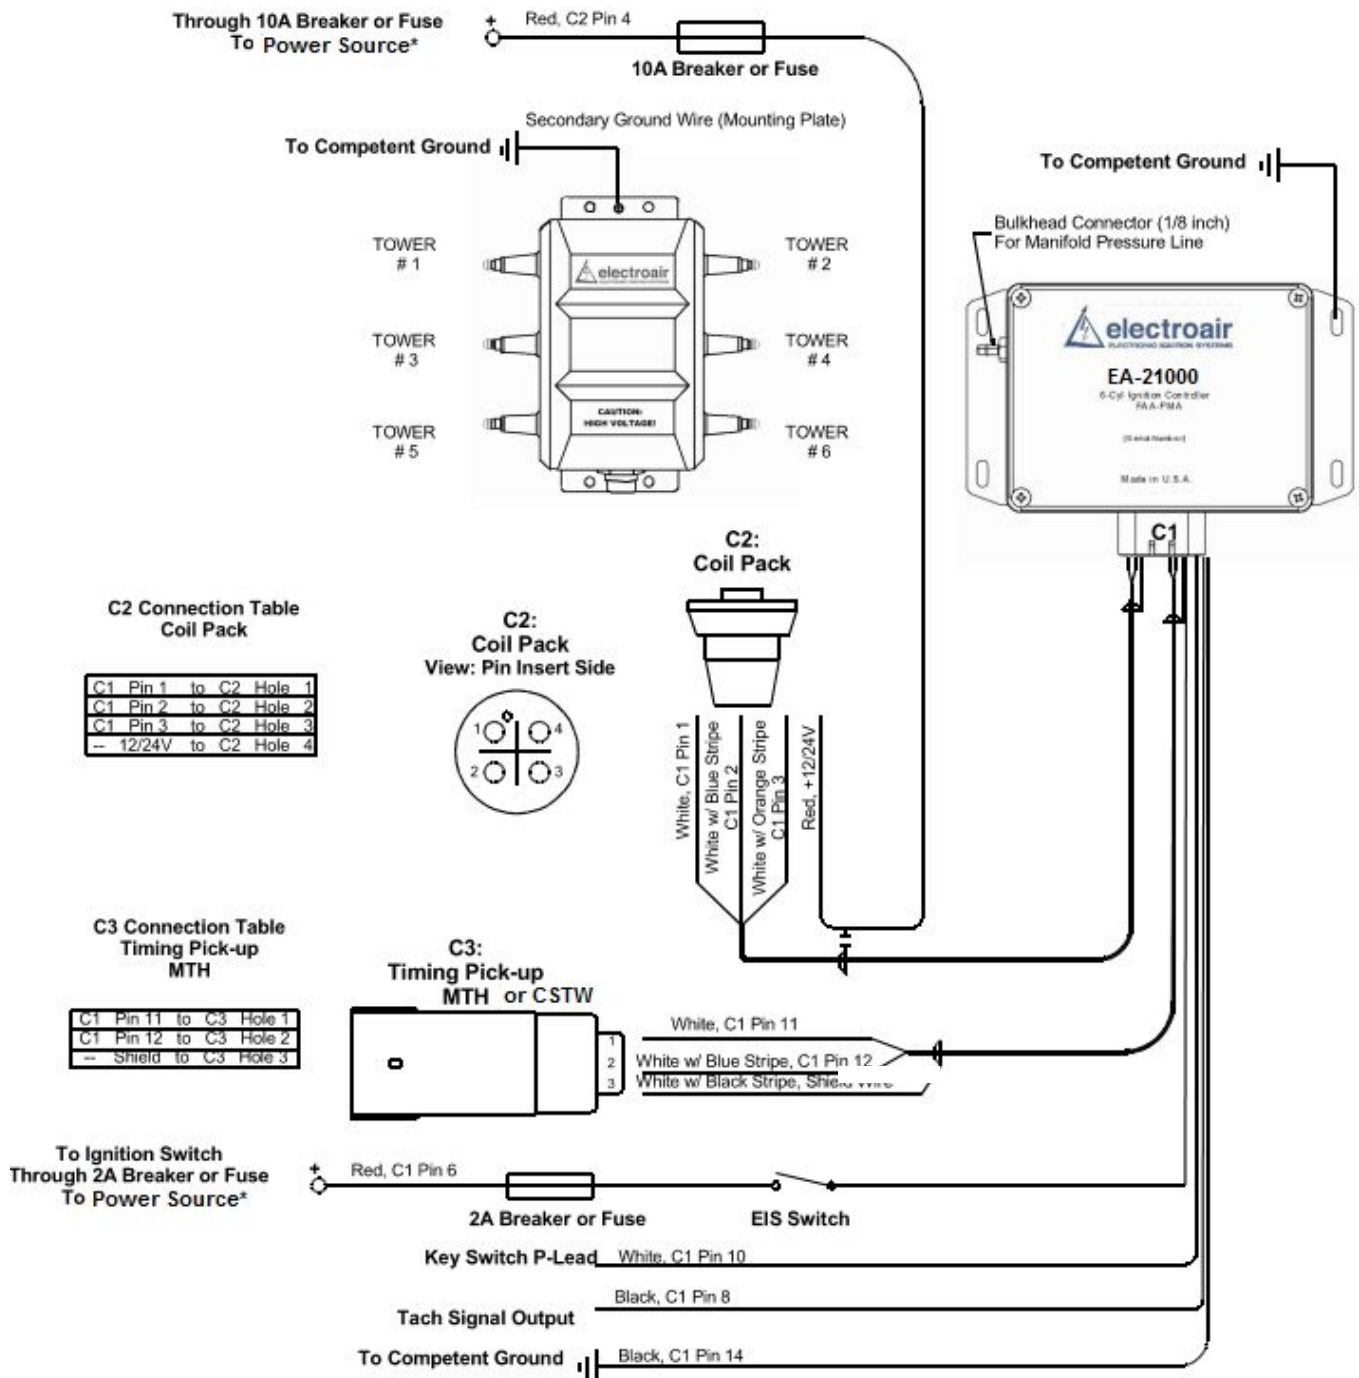

Figure 22: Wiring diagram for a EIS-61000 Series Kit
- n. Figure 22 shows the Wiring Diagram for the EIS-61000. Both EIS kits for a Dual EIS installation will have similar wiring. The only difference between each installed EIS kit will be what essential bus or power source the EIS is connected too. **Note:** Single EIS installation means one EIS installed on an engine. Dual EIS installation means two EISs installed on an engine.